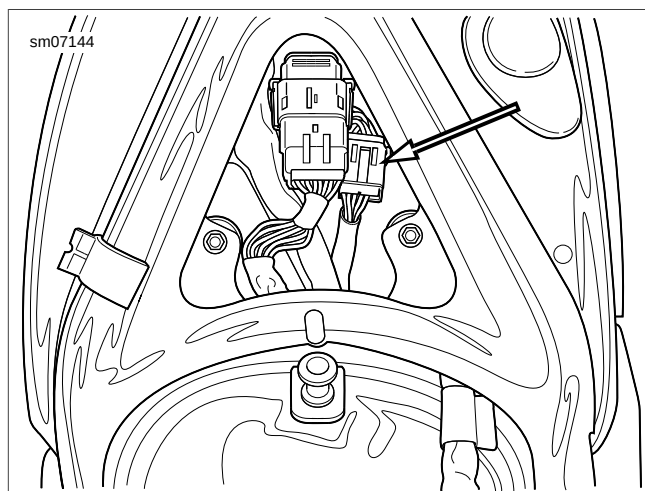

Figure 2-197. Rear Lighting Connector [7]
3. See Figure 2-197. Disconnect the rear lighting connector [7] (2) housings.